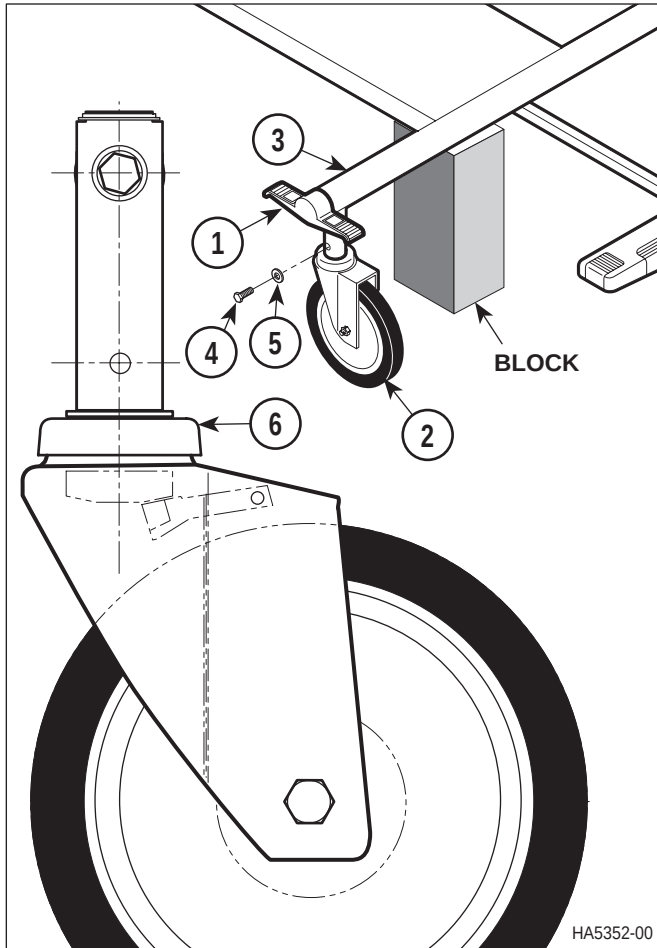

Figure 4-27. Steer Caster Fork Control Adjustment (Old Style Caster)
- (1) Move caster control pedal (1, Figure 4-27) to "neutral" position.
- (2) Raise caster assembly (2), which is going to be adjusted, off of floor, and support chassis (3) at that height with a block.
- (3) Remove two screws (4) and lockwashers (5) from chassis (3).